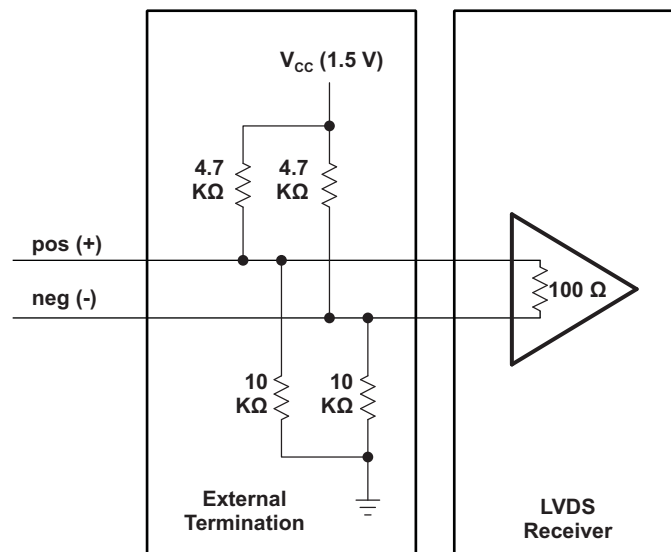

Figure 29. External Terminations: Receiver With 100 Ω
- If the LVDS receiver includes the 100 Ω termination but no biasing, use the external terminations shown in Figure 29.